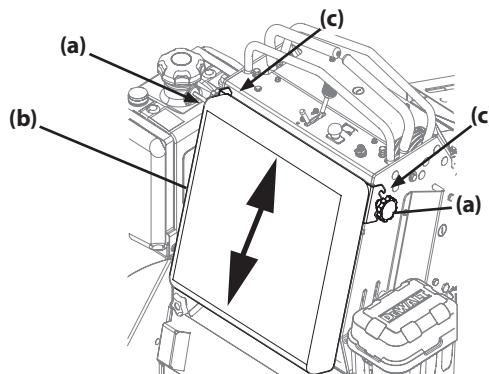

Figure 7
- Loosen the two star knobs (a) securing the leg pad (b) to the mower. See Figure 7.